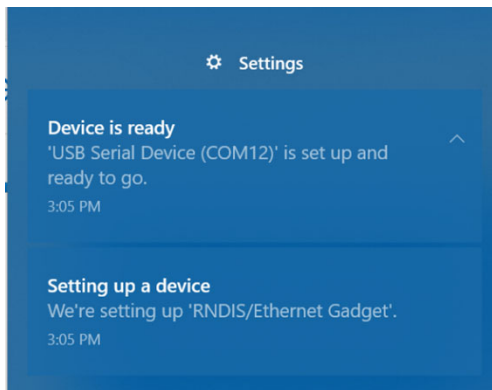

Figure D-1: USB-C Installation—Windows Setup Notifications (Windows 10 shown)
3. Wait for the automatic virtual COM port setup to complete — The computer displays a notice while setting up the port, and another notice when the installation is complete, as shown in Figure D-1.